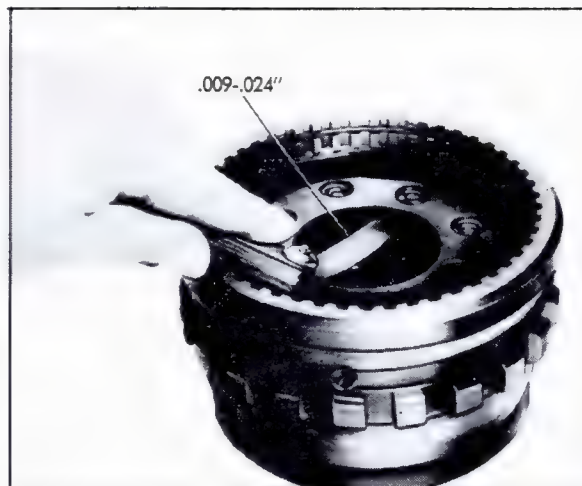

Fig. 7-178 Checking Pinion End Play
- Check pinion end play. Pinion end play should be .009 inch - .024 inch, Fig. 7-178.